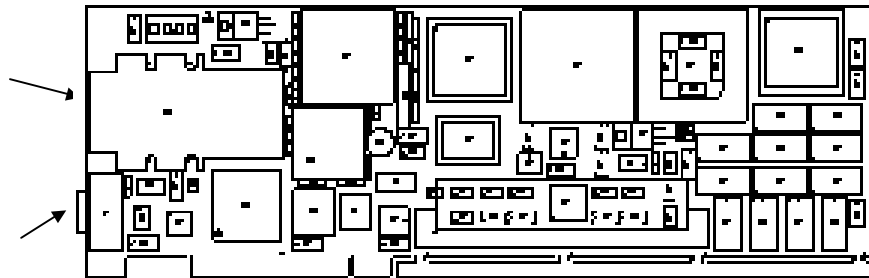

Figure 2-1. Netfinity ESCON Adapter
The ESCON adapter is a full size PCI adapter measuring 12.283 X 4.2 inches, Figure 2-1. The adapter comes pre-configured and is ready to be installed. There are no jumpers or switches that need setting prior to installation.
4. Remove the adapter from its protective anti-static bag. As shown in Figure 2-1, the adapter has two connectors at the card edge; a standard ESCON connector (top) and a serial port connector (bottom). Remove the wrap plug shipped in the ESCON connector and save it for diagnostic purposes.